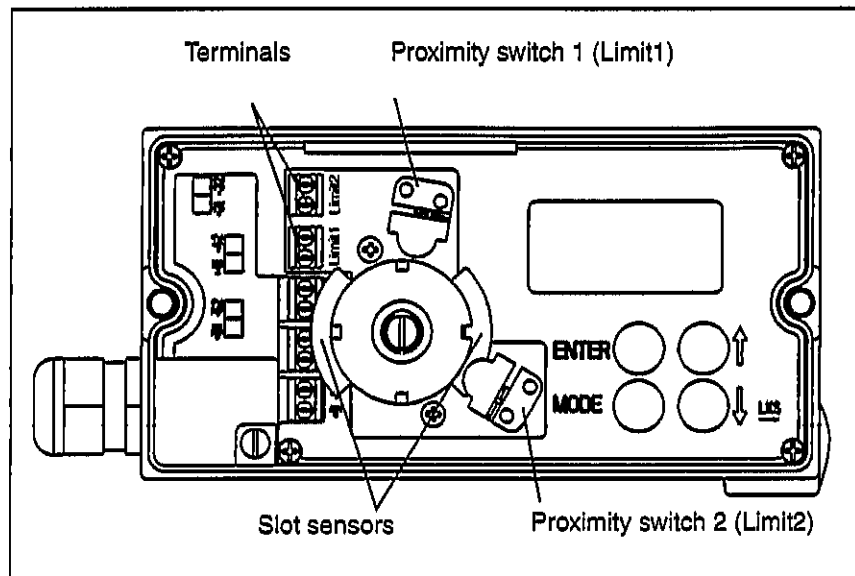

Fig. 30 Mechanical kit for digital position feedback using proximity switches
- Connect the proximity switches (see Fig. 30).
- Use a screwdriver to adjust the slot sensor of proximity switch 1 on the feedback shaft (lower contact, see Fig. 30) until it closes the contact (i.e. just before introducing into the proximity switch); **the slot sensor introduces into proximity switch 1 when turning the feedback shaft clockwise (as seen from the front).**
- Use a screwdriver to adjust the slot sensor of proximity switch 2 on the feedback shaft (upper contact, see Fig. 30) until it closes the contact (i.e. just before introducing into the proximity switch); **the slot sensor introduces into proximity switch 2 when turning the feedback shaft counterclockwise (as seen from the front).**